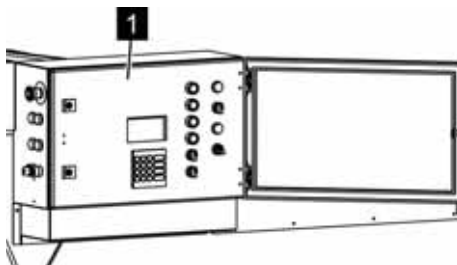

Fig. 150: Opening the door
2. ➤ Open the door (Fig. 150/1) of the bottom control with the included double bit key ( ↗ Chapter 4.6.1 'Keys' on page 66).